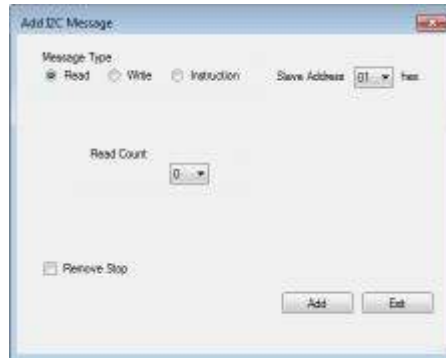

Figure 3. Add I2C Message Window
6. The Add I2C Message window is now displayed. (See Figure 3)